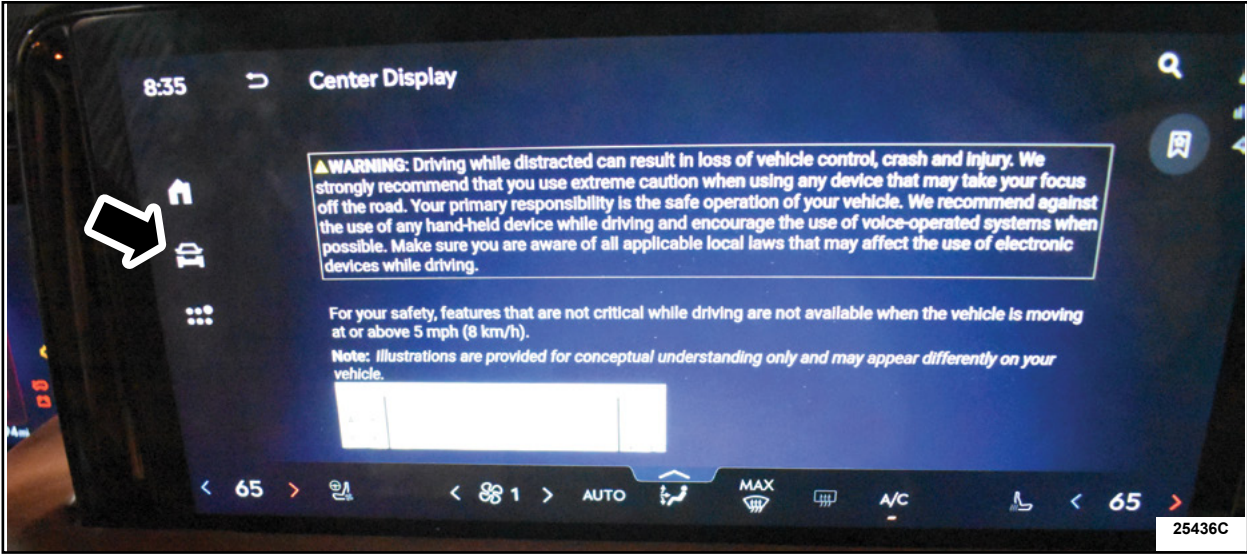

FIGURE 1
10. To turn the features back ON, go to the vehicle's center display, proceed to the vehicle icon (the icon with a vehicle on the left side of the center display screen). See Figure 1 on page 3.